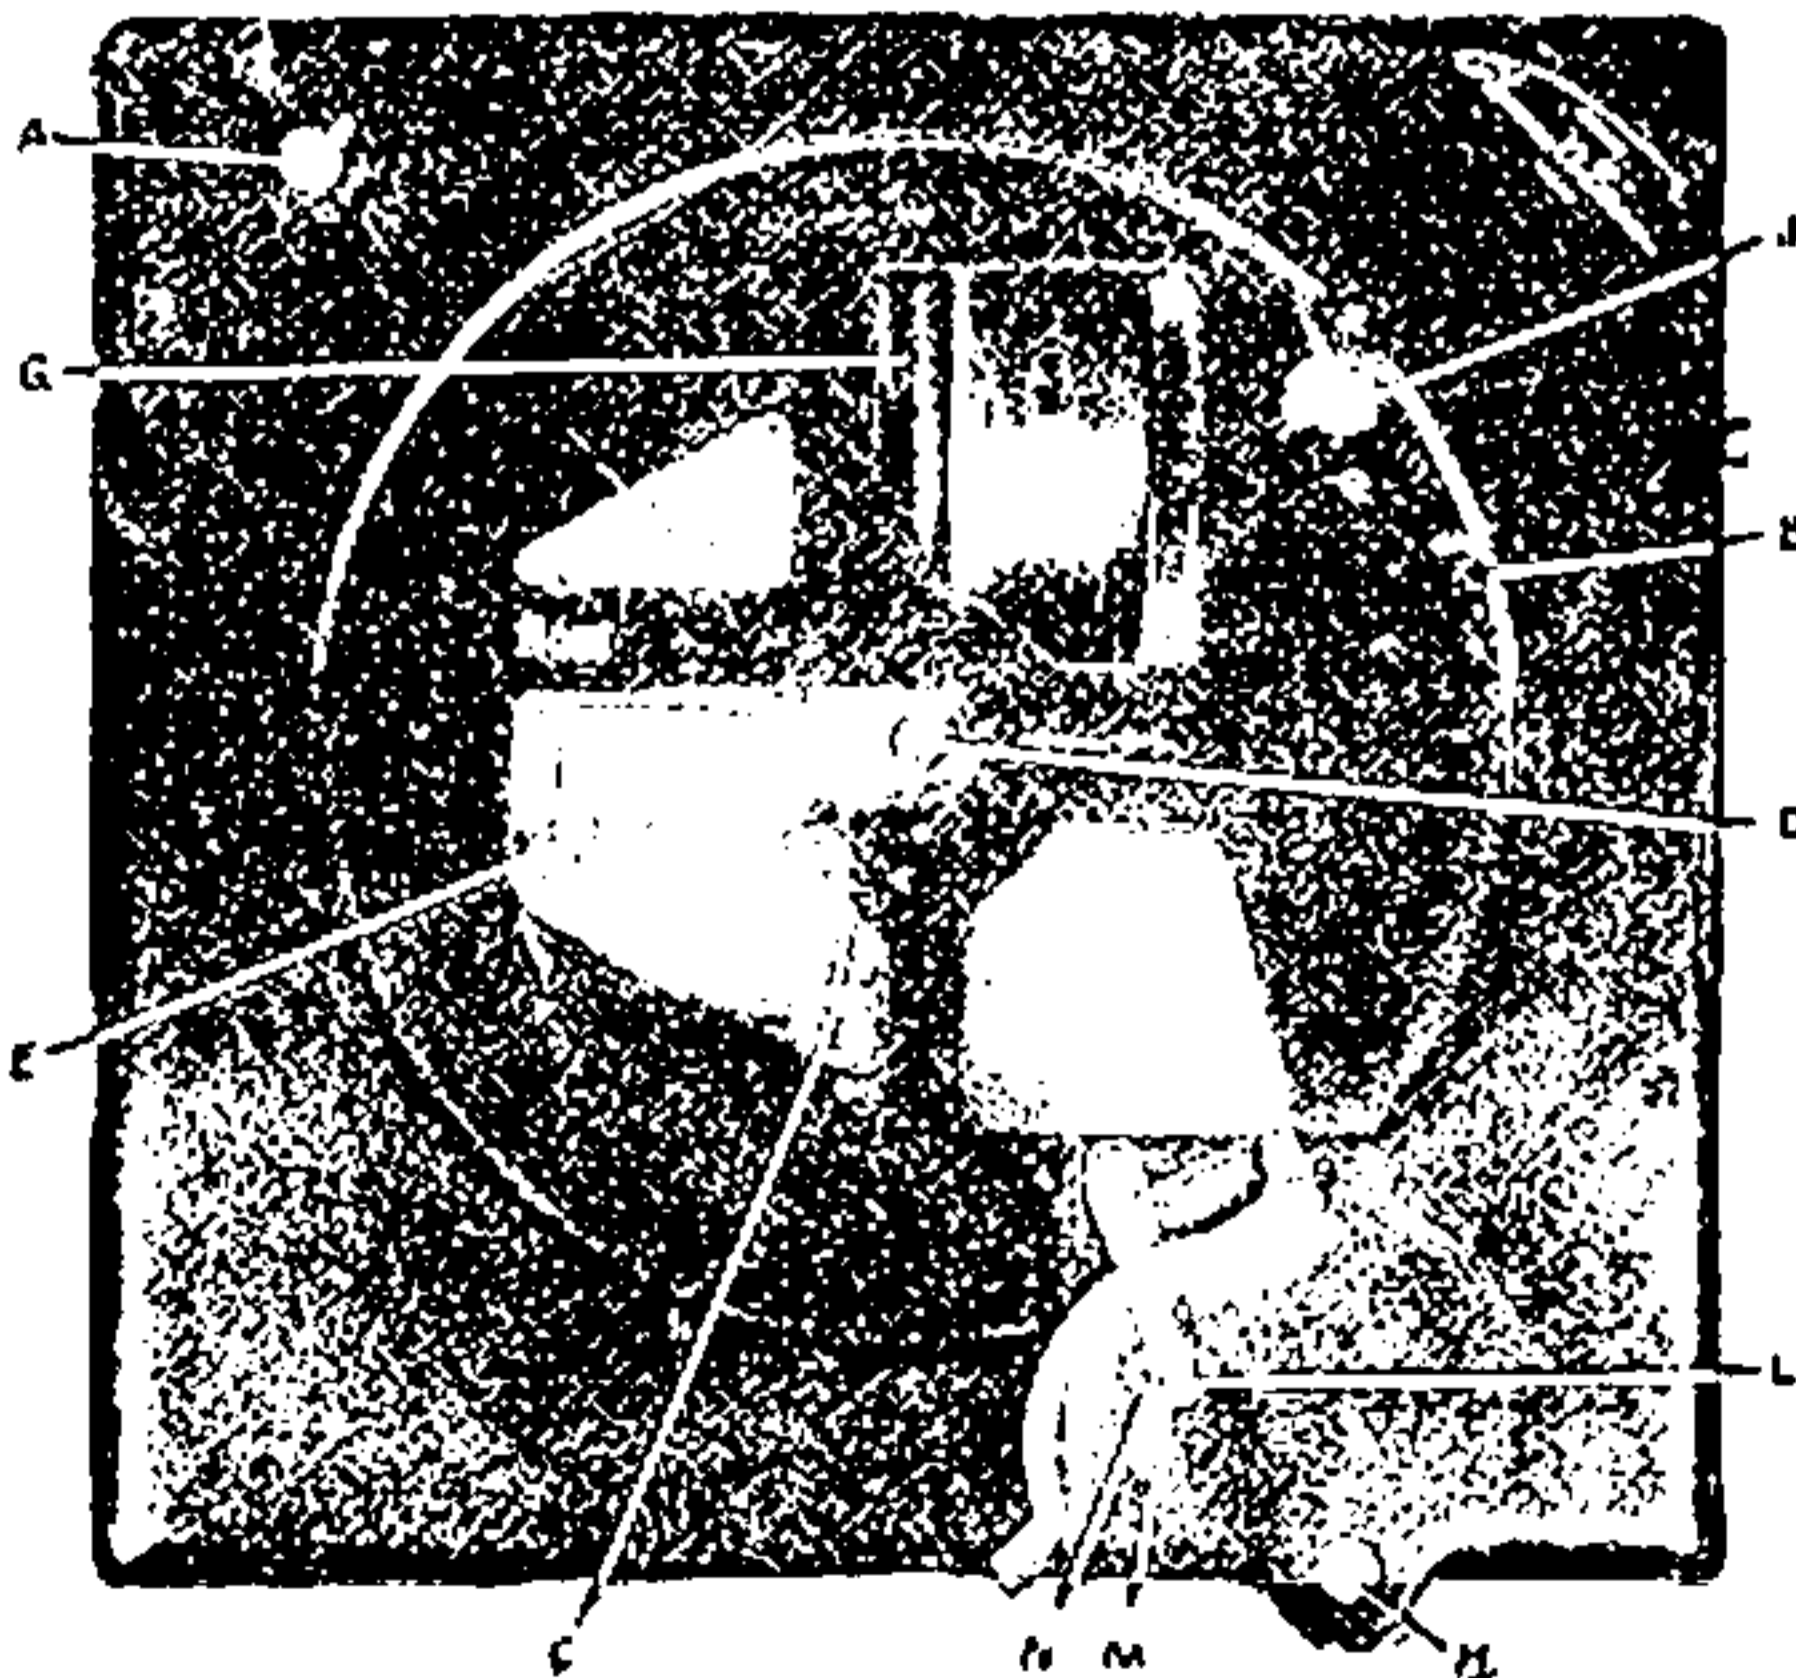

Fig 6
- (h) When proper adjustment is attained, again remove Reproducer and turn-table, as above, and tighten set screw (L, Fig. 6).
- (a) Turn speed adjusting knob (A, Fig. 6) to left as far as it will go.
- B (Fig. 6) Oil cup (fill with oil).
- C (Fig. 6) Oil cup (fill with oil).
- D (Fig. 6) Upper spindle bearing (oil freely).
- E (Fig. 6) Governor frictions (1 or 2 drops on each).
- G (Fig. 6) Oil tube to spring sleeve (oil freely).
- H (Fig. 6) Operating handle bearing (3 or 4 drops).